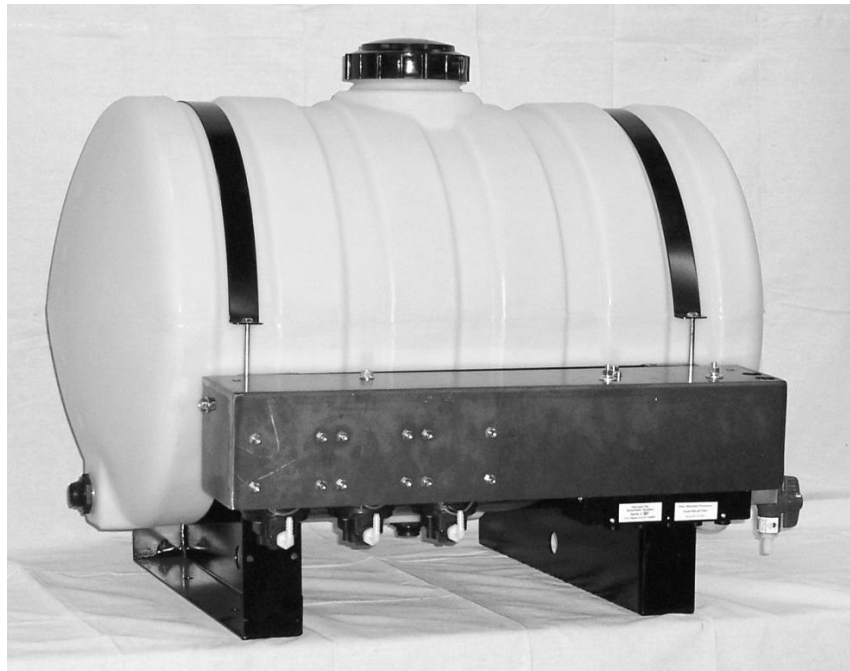

Figure 3
3. Attach the pump plate holder (001-4646D) to pump plate mounting bracket (001-4646C) using four 3/8" x 3/4" flange head bolts. Figure 3.